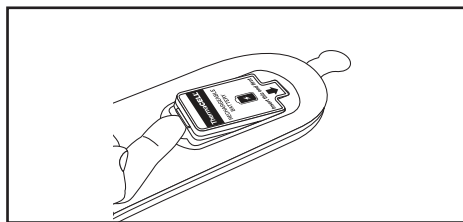

Figure 9
2. Just beyond the front edge of the foam you will feel a thin protruding hard tab on the battery. Lift the battery by the tab just enough so you can insert the tip of one finger under the battery (Figure 9).